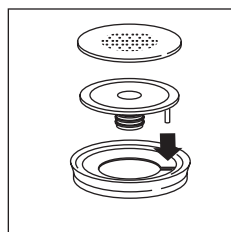

fig. 31
- Replace the filter and gasket on the plastic disk as shown in fig. 31. Make sure to insert the pin on the plastic disk into the hole in the gasket indicated by the arrow in fig. 31.